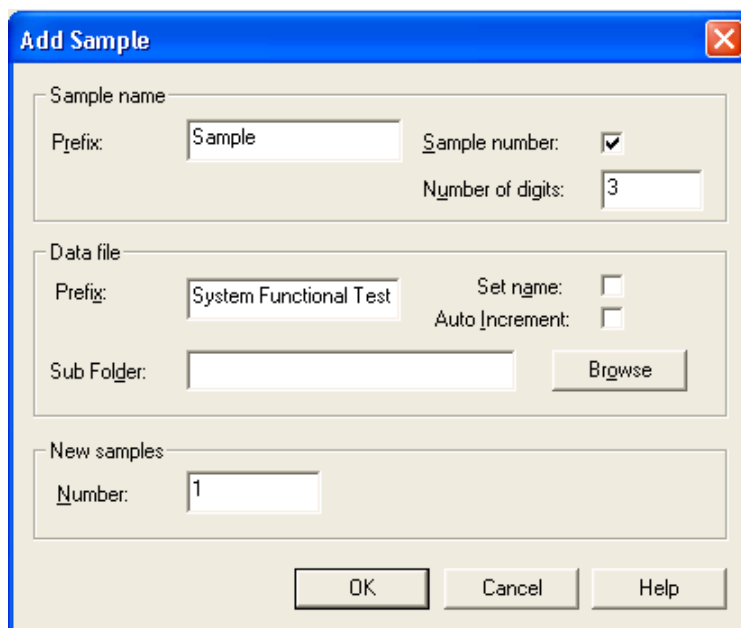

Figure 3-25 Add Samples dialog—System Functional Test
2. Build the acquisition batch, as shown in Figure 3-25.